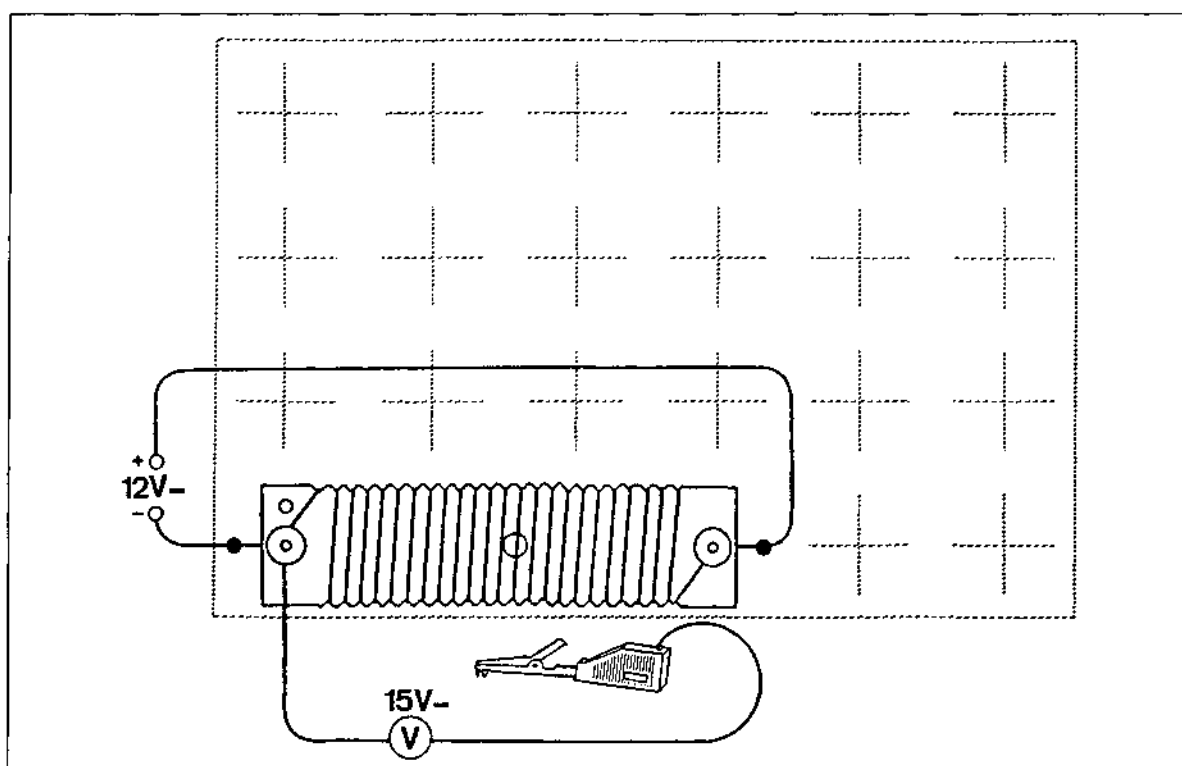

Fig. 1 Experiment setup: Voltage distribution in a current-carrying wire
2. Build the circuit shown in fig. 1. Make sure all your connections are the right way round (pay attention to the polarity!).